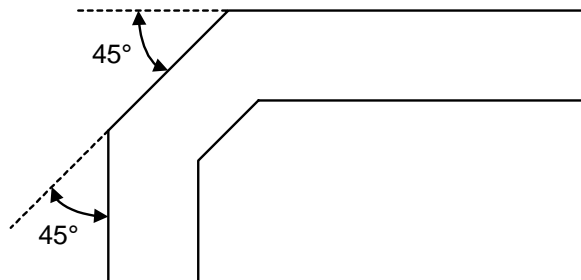

Figure 6. Trace Routing
- For high-speed signals, the number of corners and vias should be kept to a minimum. If a 90° bend is required, it is recommended to use two 45° bends instead. See Figure 6.